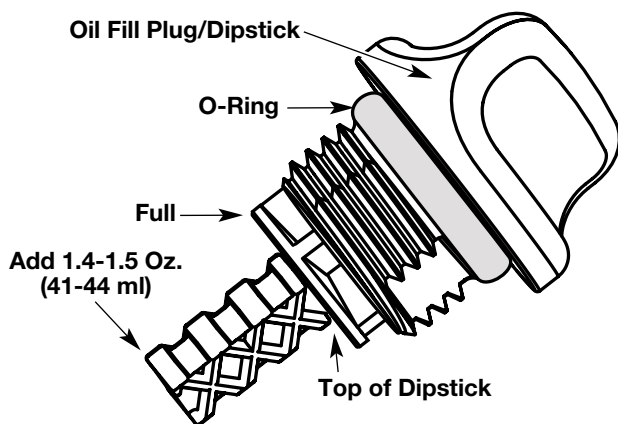
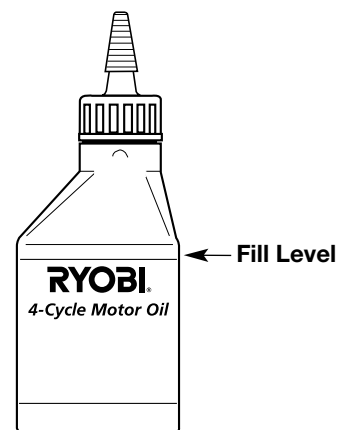

Fig. 39
Fig. 42
5. Remove the oil fill plug/dipstick and check oil level. Oil should be up to the top of the dipstick (Fig. 39).
**NOTE:** Use the bottle and spout saved from initial use to measure the correct amount. 3.4 ounce (100 ml) is approximately to the top of the label on the bottle (Fig. 42). Check the level with the dipstick. If the level is low, add a small amount of oil and recheck (Fig. 39). Do not overfill.